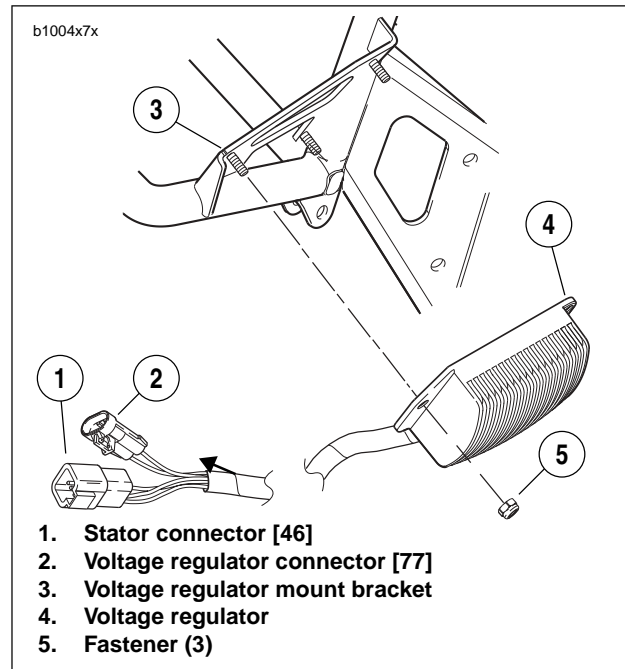

Figure 7-34. Voltage Regulator
3. See Figure 7-34. Disconnect stator connector [46] (1) and voltage regulator connector [77] (2) located under sprocket cover. See 7.24 SPROCKET COVER WIRING.
4. Remove fasteners (5) and voltage regulator (4) from bracket (3).
1. See Figure 7-34. Attach **new** voltage regulator (4) to bracket (3). Tighten **new** fasteners (5) to 48-60 in-lbs (5.4-6.8 Nm).
2. Connect stator connector [46] (1) and voltage regulator connector [77] (2) located under sprocket cover. See 7.24 SPROCKET COVER WIRING.